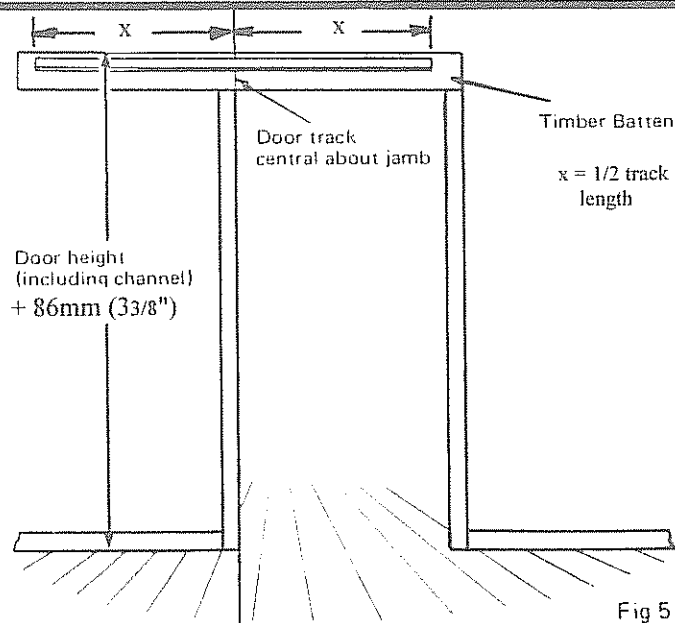

Fig 5
- 1 Remove any existing handles, hinges, locks etc., from the door and fill-in where necessary. Remove architrave from above the door frame. Secure timber batten to wall (fig 5) The thickness of the batten must be 1/8" (3mm) greater than the architrave, several inches longer than the track and 5" (125mm) wide. For new installations the architrave may be designed to suit.